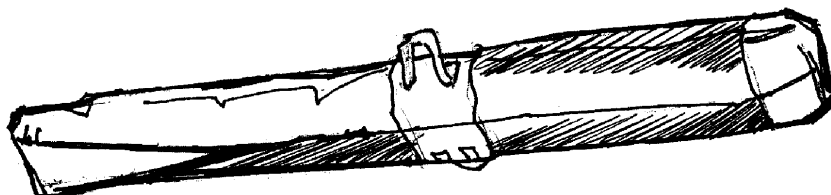

Fig.48
4.2.4. Place the consols into the bag. Zip the zipper. Tuck the excess of the bag into the package (Fig.48).